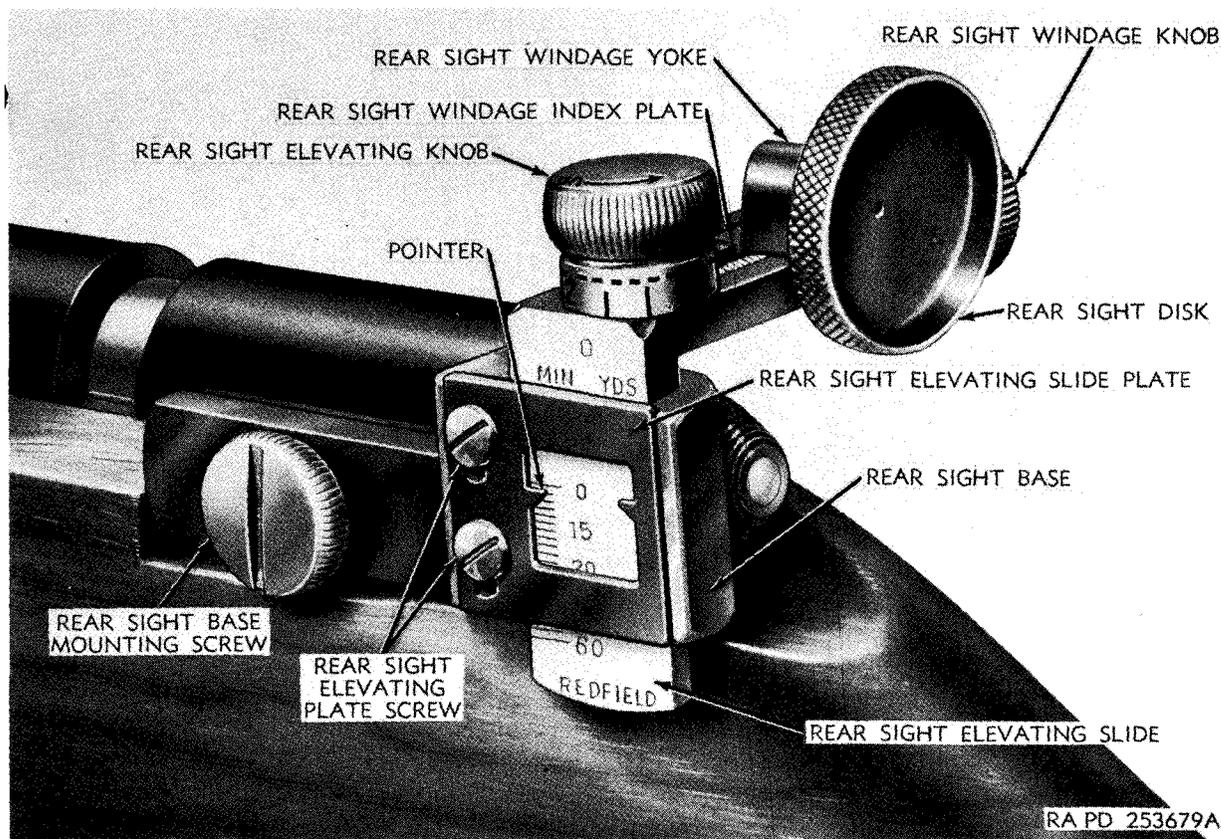

Figure 7. Rear sight assembly (Remington rifle M513T).
(3) *Rear sight assembly* (fig. 7).